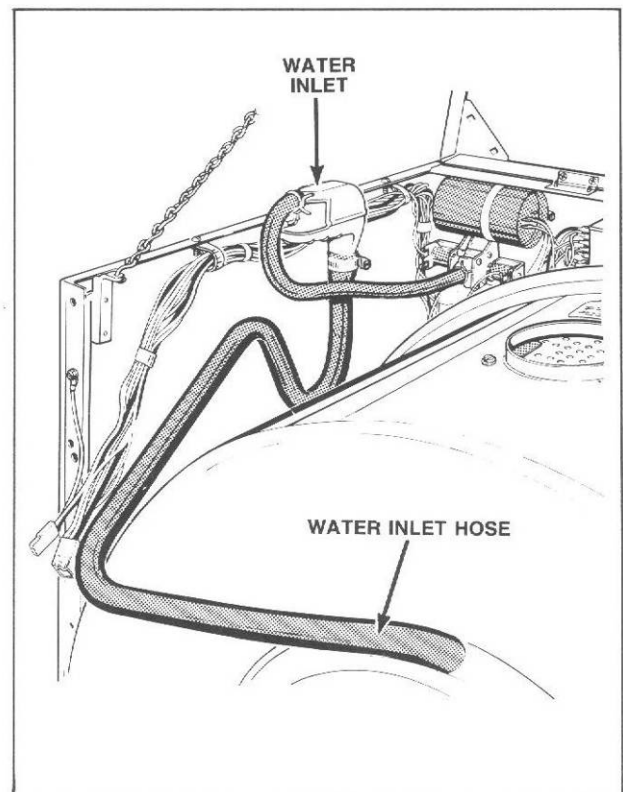

Figure 24
**26. WATER INLET** (Refer to Figure 24)
- f. Disconnect water inlet hose from water inlet and from outer tub, *Figure 24*.